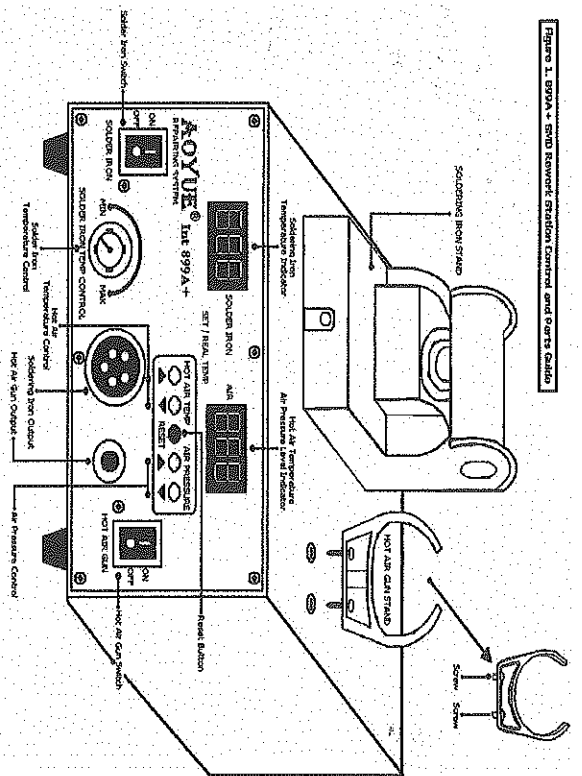

Figure 1. 899A+ SMD Rework Station Control and Parts Guide
3. See Figure 1 for the proper positioning of the holder.
2. Position the soldering iron holder. (Figure 1)